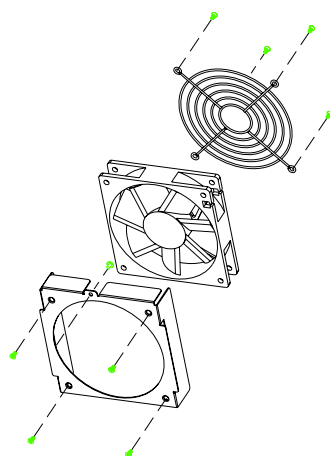

Figure 3.7: Replacing the fan
4. Loosen four screws on the fan bracket and the four screws on the fan guard (not the screws on the fan) and replace it with a new fan. (see *Figure 3.7*)